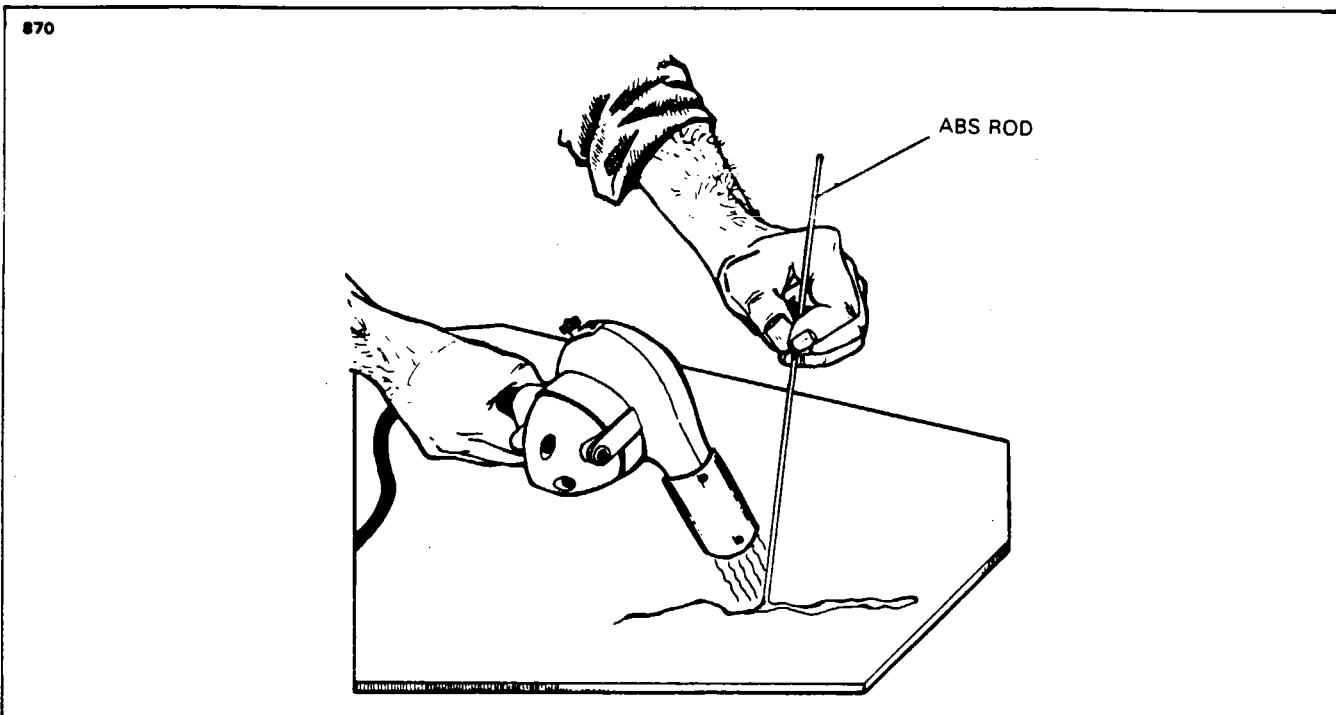

Figure 51-6. Welding Repair Method
- J. This welding method requires a hot air gun and ABS rods. To weld, the gun should be held to direct flow of hot air into the fusion (repair) zone, heating the damaged area and rod simultaneously. The gun should be moved continuously in a fanning motion to prevent discoloration of the material. Pressure must be maintained on the rod to insure good adhesion. (Refer Figure 51-6.)